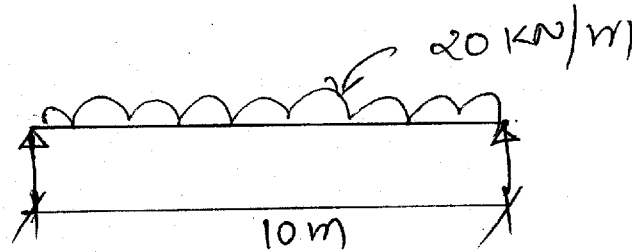

Fig. 2
- (b) For the beam shown in figure 2, calculate bending stresses; also draw the bending stress diagram. 12